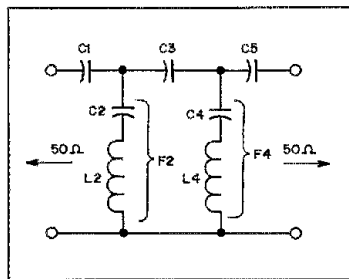

Fig. 4 — Schematic diagram of a fifth-degree elliptic high-pass filter. See Table 1 for component values.
□ Photoconductive cells are less sensitive to light changes than are phototransistors. For burglar-alarm purposes this can be an advantage. A very simple alarm system can be built on a piece of perforated board 2 × 3 inches or smaller. I mounted mine on the lid of a tobacco tin. A 12-V dc supply is fed directly to a 5- or 6-V DIP relay through a CdS cell, which has a dark resistance approaching 0.6 MΩ and a bright-light resistance of about 100 Ω. The complete diagram is shown in Fig. 4. S1 is used
Fig. 4 — Schematic diagram of a simple burglar alarm, using a CdS photoresistor. K1 has a 5-V coil, and K2 has a 12-V coil. R1 is Radio Shack part no. 276-116 or equivalent.
Fig. 4 — Worst-case spectral display of the Mirage C-106. Measurement conditions remain the same as for the C-22. The fundamental has been reduced in amplitude by about 15 dB to prevent analyzer overload. Power output is approximately 60 W at 220 MHz. The C-106 complies with current FCC specifications for spectral purity.